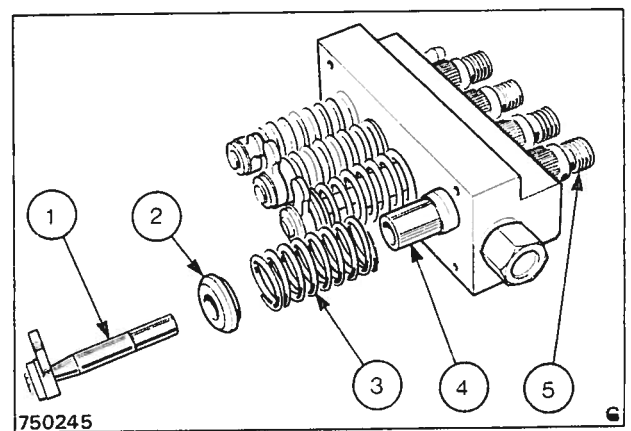

Fig. 10 Pump body
4. Remove the plungers, springs and lower spring seats from their barrels and lay them carefully in the dismantling tray, keeping them in their correct positions, Fig. 10. Remove the delivery valve holders. Extract the volume reducers, springs and delivery valves.